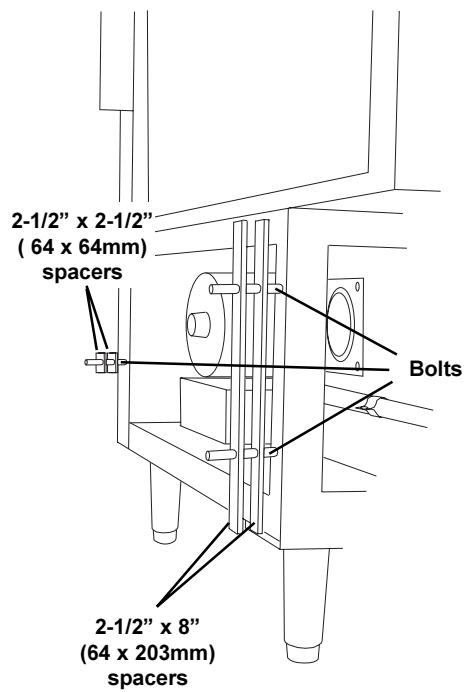

Figure 2-17
3. Insert three of the supplied 1/2 x 5" bolts through the holes in the frame of the right oven, pointing outward as shown in Figure 2-17. Then, slide the spacers into place on the bolts.